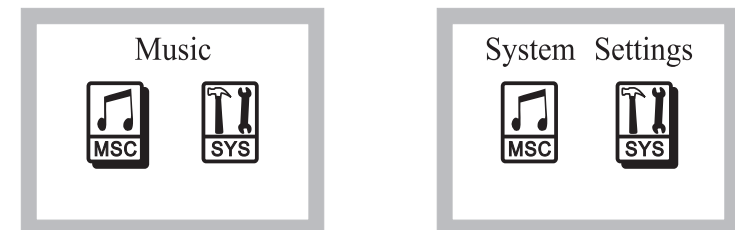

Fig. 8
(C) Audio device is not inserted display, Fig. 8: